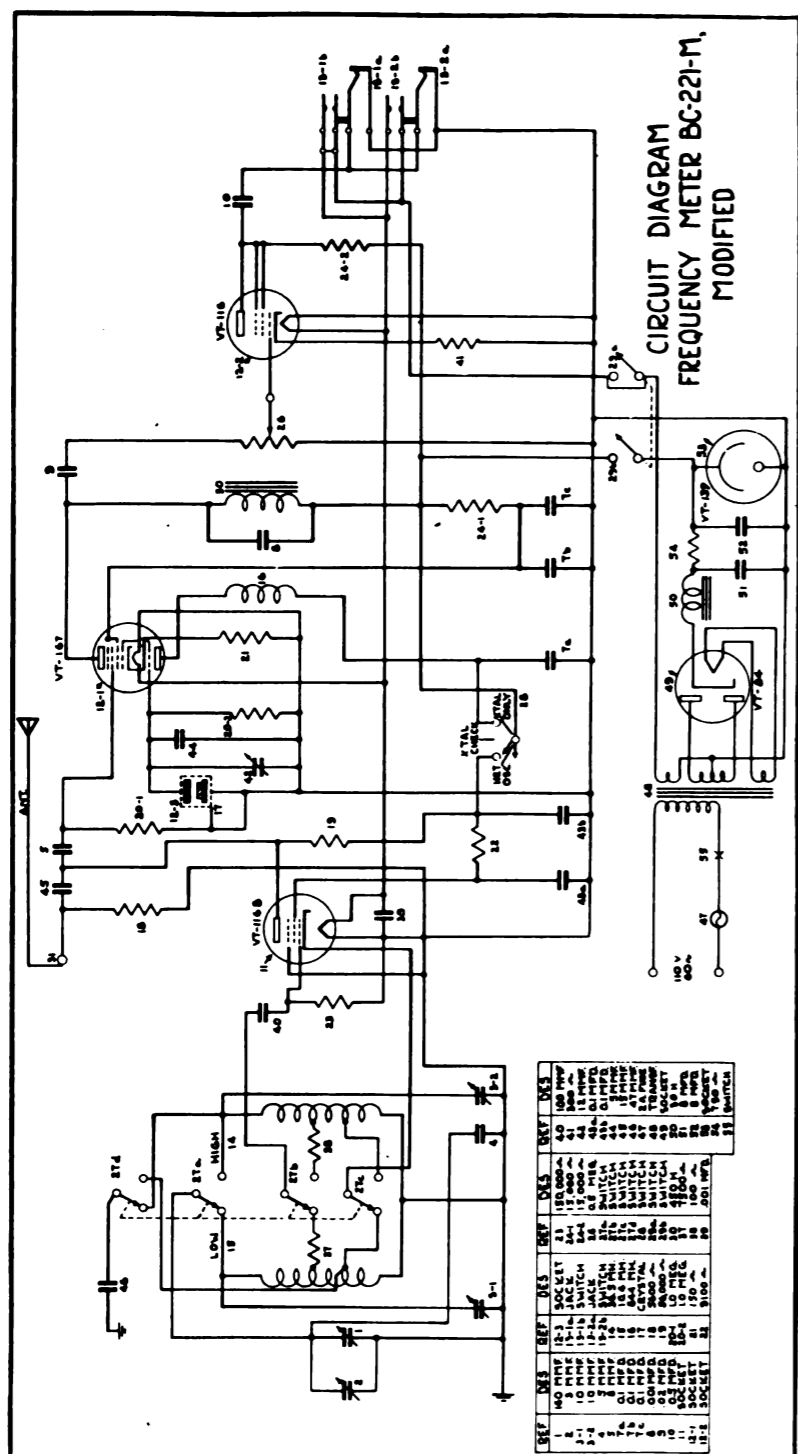

Figure 33—Crystal Frequency Indicator, Modified, Schematic Diagram
b. For crystal frequency indicator unit and its power supply, see Preliminary Instructions for Frequency Meter Set SCR-211-M. The modified circuit, Figure 33, includes two tubes on the small chassis. These are VT-139, the octal base type, and VT-84 the 5 pin tube.